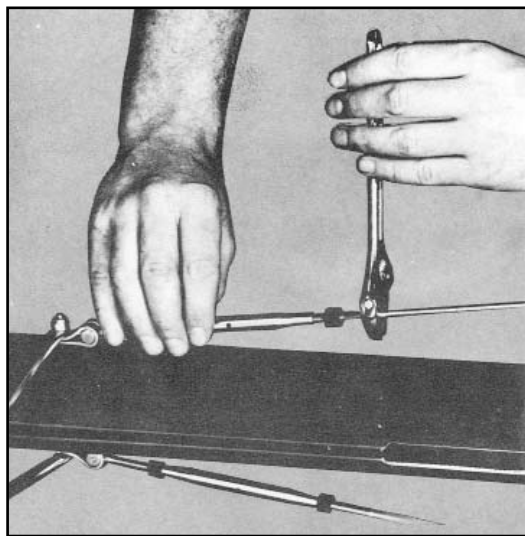

Figure 14
22. Tighten the diamond wires by rotating the turnbuckle bodies. The turnbuckles must be adjusted equally since over-tightening one side will induce a bend into the mast. See Figure 14.